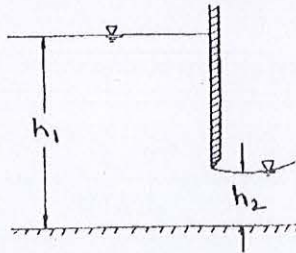

Figure 1
1. In a drainage channel, water flows with a depth of 1 m and a mean velocity of 3 m/s. The section where this condition occurs is parabolic which has a top width of 4 m. Compute the discharge and the state of flow in the channel based on its Froude number. If elementary waves are created in these channels, determine the speeds of the wavefronts upstream and/or downstream of the parabolic section. (12)
2. The depths of flow at a short distance upstream and at the vena contract downstream of a vertical sluice gate in a horizontal rectangular channel are 4 m and 1 m, respectively (shown in Figure 1). The bottom width of the channel is 6 m. Calculate the discharge under the gate. Neglect the energy losses. (6)